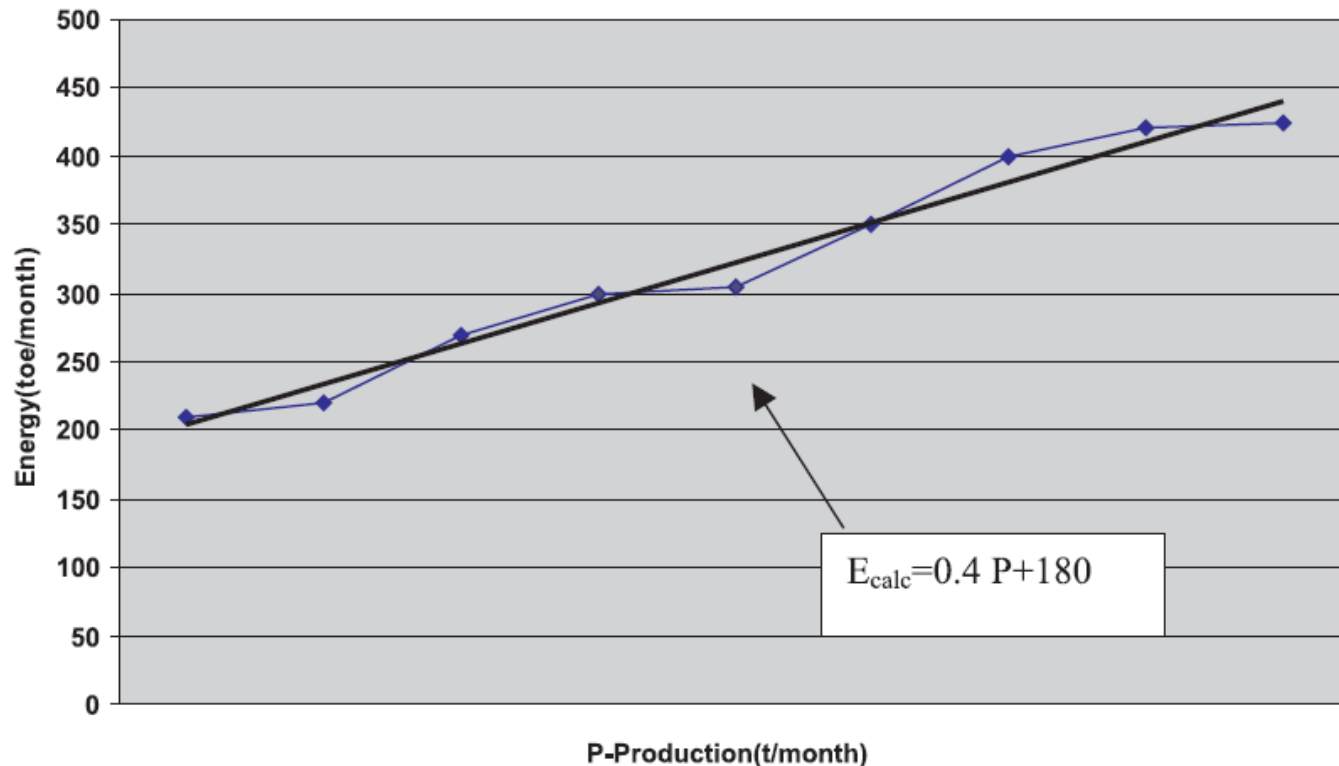

Figure 8.9 Energy Production Graph
- The above steps are completed in Figure 8.9, the equation derived is $E = 0.4 P + 180$